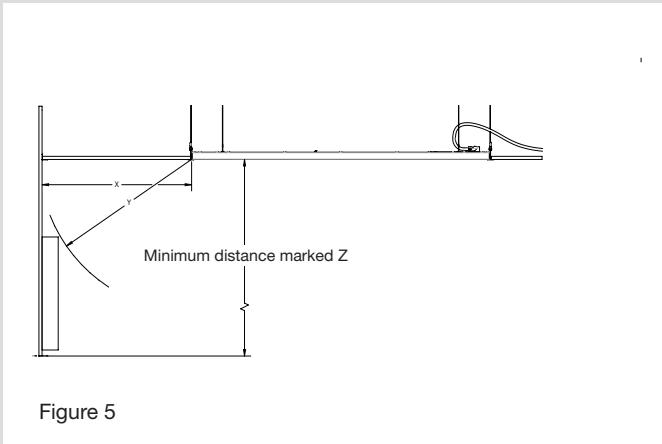

Figure 5
1. Minimum clearance of 7 ft (2.13 m) from the floor. See Fig. 5 (Distance marked Z)
2. A clearance of 6 in (152 mm) is recommended between the panel and adjacent walls. (Fig. 5 (Distance marked X))
3. Minimum clearance of 36 in (915 mm) between the unit and any heat-sensitive device rated at 40°C (104°F) or higher. (Fig. 5 (Distance marked as Y))